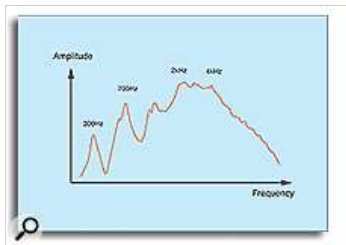

Figure 14: A measurement of a violin's spectrum when played with the bow.
However, this information isn't much use, because a bowed instrument's body is not energised by a single frequency — it is energised by the energy transmitted by the bridge. This, as we have already seen, starts its life as a sawtooth wave rich in harmonics, and is then further shaped by the resonant response of the bridge itself. This harmonically rich energy interacts with the body to generate a different response, and it is this that we must recreate if we wish to synthesize a bowed instrument accurately (see Figure 14).
- Secondly, the shape of the spectrum in Figure 14 is important. The timbre of a violin is strongly linked to the dominant body resonances in the region of a few hundred Hertz, as well as the broad combination of resonances in the region of 2kHz to 4-5kHz or thereabouts. Without these (or their equivalents for the viola or cello) the sound will not be realistic.